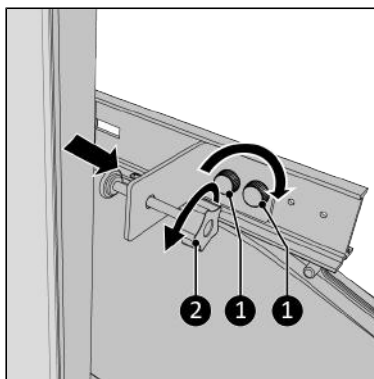

Figure 64.
13. Screw the clamping screw all the way back (Figure 64, pos. 2).
15. Screw the clamp bracket to the main rail using the two knob screws (Figure 64, pos. 1).